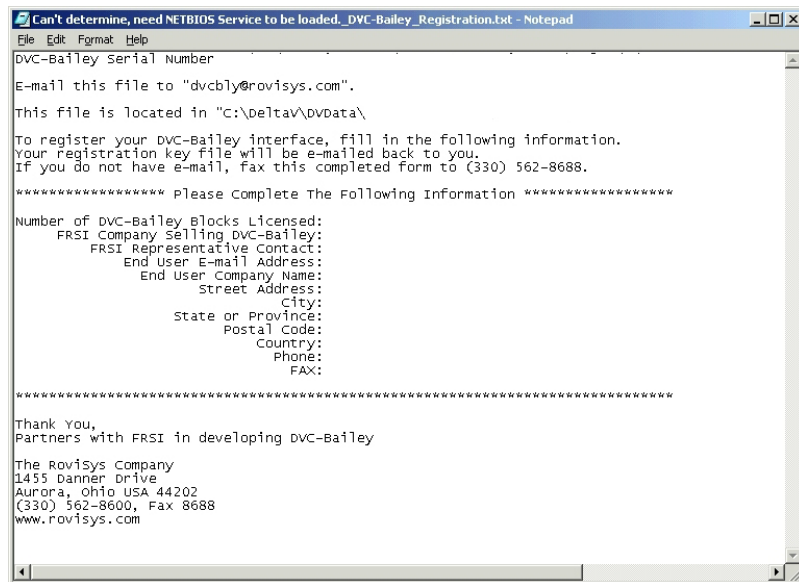

Fig 3.1.3 – Optional Registration form
5. A registration request will appear (see fig 3.1.3). It is not absolutely necessary to send this registration to RoviSys (interface developer) but it is a good idea for two reasons. The first it will aid with any technical support calls where they become involved. The second is a registration key will be e-mailed back that when copied to the Application Station Windows directory, eliminates the request to register dialog that appears each time a download or system restart occurs.